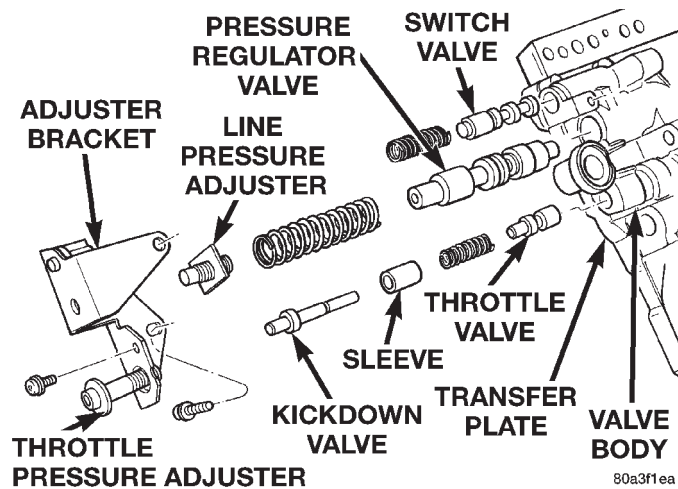

Fig. 72 Adjusting Screw Bracket, Springs, and Valves
(45) Install switch valve and spring, pressure regulator valve and spring, kickdown valve and spring, and throttle valve into valve body (Fig. 72).